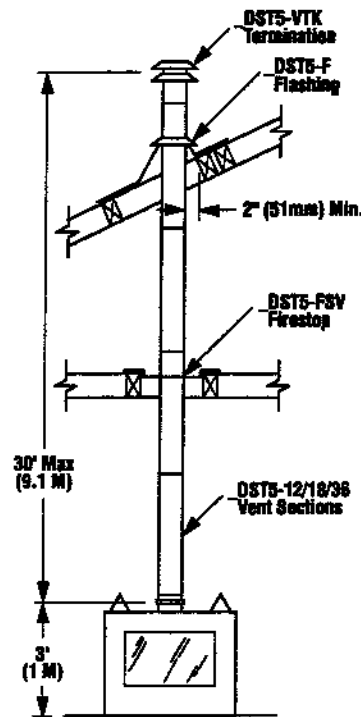
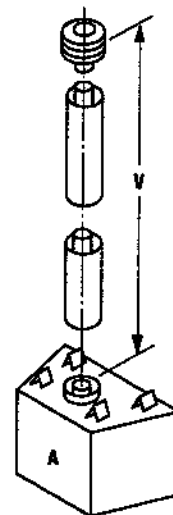

Figure 14
Figure 15 (Straight)
The Figures 14 through 16 and the Vertical Vent Table on page 8 illustrate the various vertical venting configurations that are possible for use with these top vent appliances. The maximum vertical height for the \_DVT5 system is 30' (7.6 m) above the top of the appliance. Figures 15 and 16 along with Vertical Vent Table identify: (A) straight vertical system and (B) vertical system that employs two (2) 90° elbows. The Vertical Vent Table summarizes each system's minimum and maximum vertical and horizontal values that can be used to design and install the vent components in a variety of applications.